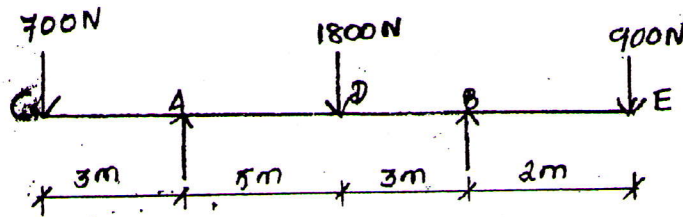

Fig. 1
- III. (a) Draw the shear force and bending moment diagrams for the beam which is loaded as shown in Fig. 1. Determine the points of contraflexure within the span AB.